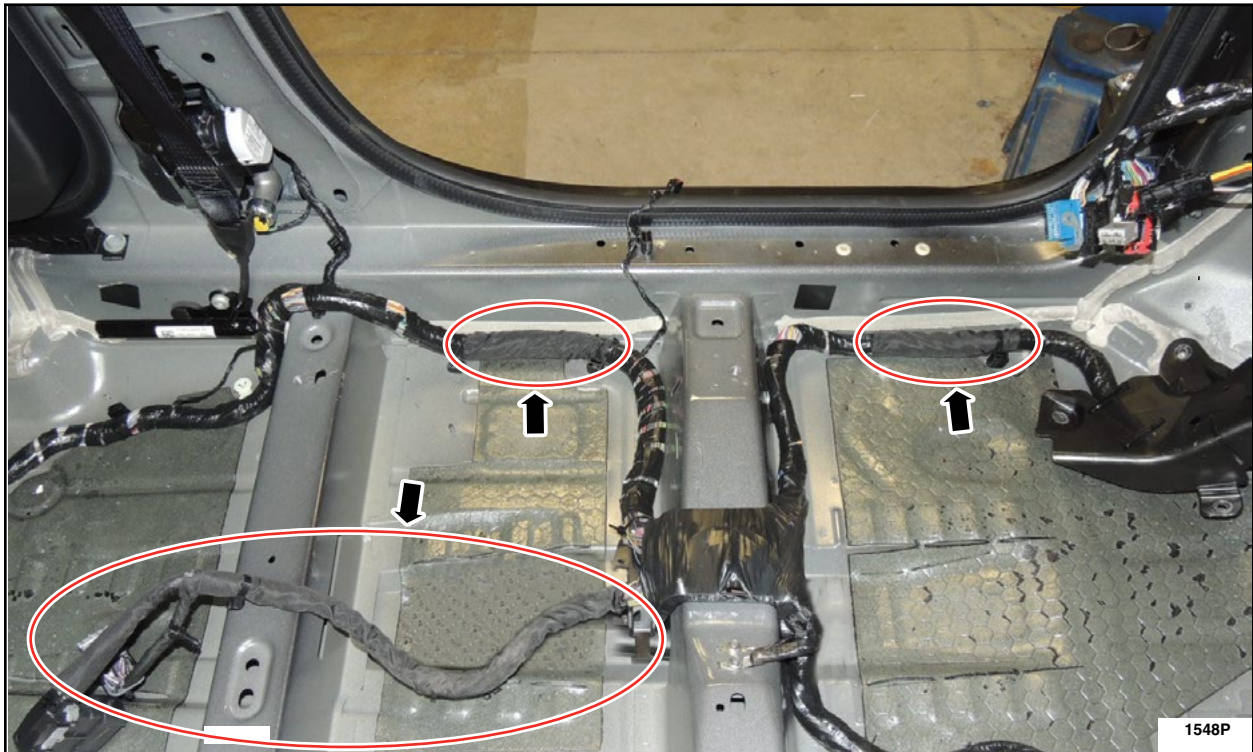

FIGURE 18
28. Cut to remove and discard all fabric protective sheathing on the body wire harness at six locations (three each side). See Figure 18.